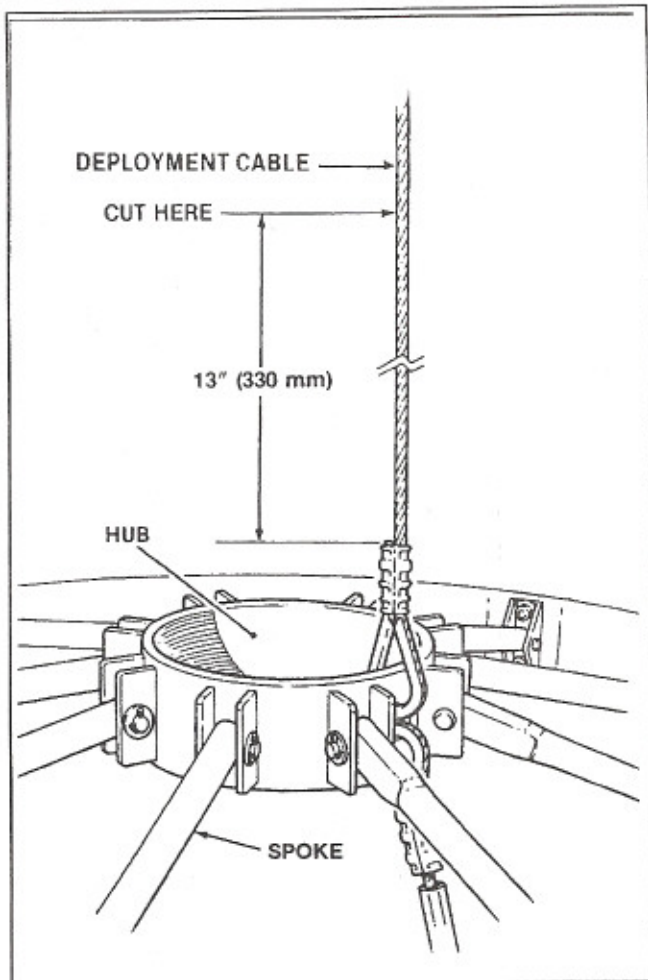

Fig. 5: Cut 13" (330 mm) off the IDS Deployment Cable.
5) Cut 13" (330 mm) off the IDS Deployment Cable as shown in Fig. 5.